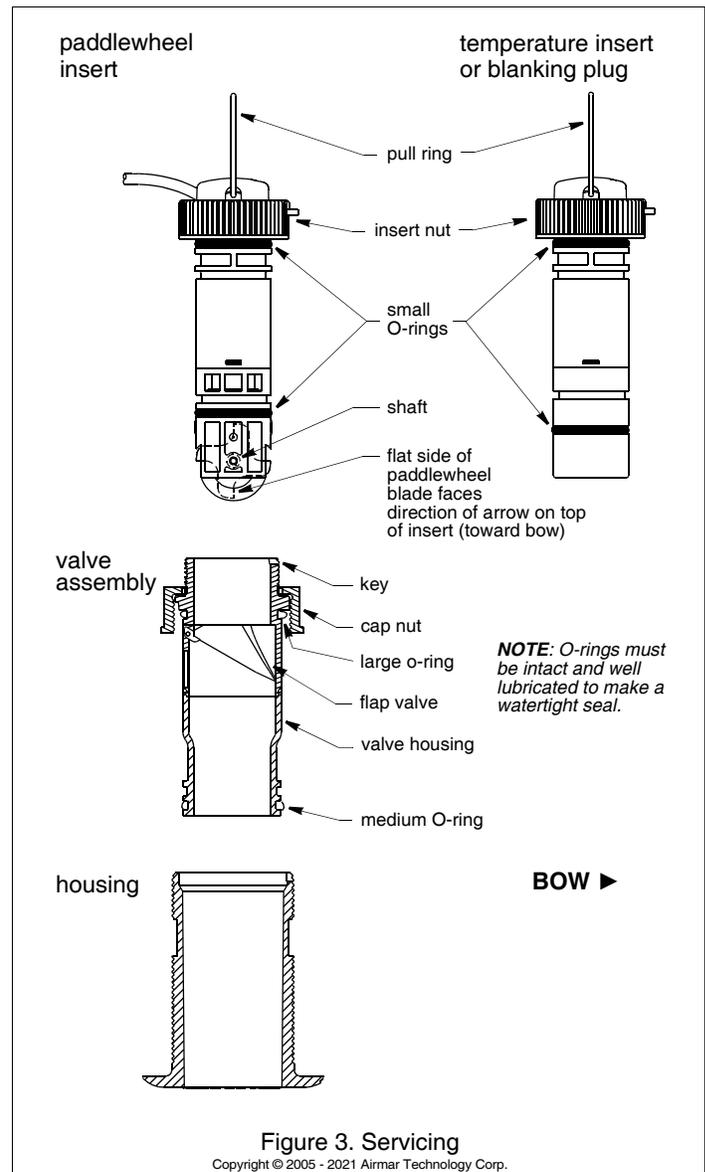

Figure 3. Servicing
5. All the O-rings must be intact and well lubricated to make a watertight seal. After the marine sealant cures, inspect the O-rings on the valve assembly (replace if necessary) and lubricate them with the silicone lubricant supplied (Figure 3).
1. Place the INSERT nut on the top of the *long* blanking plug. Attach the pull ring to the plug, capturing the insert nut (Figure 3).
5. Slide the *long* blanking plug into the housing (Figure 3). Seat it into place with a pushing twisting motion until the key fits into the notch. Screw the INSERT nut in place and **hand tighten** only. Do not over tighten.
2. All the O-rings must be intact and well lubricated to make a watertight seal. Inspect the O-rings (replace if necessary) and lubricate them with silicone lubricant or petroleum jelly (Figure 3).
6. Clean, repair, or replace the valve assembly, so the flap valve moves freely and seats against the valve housing (Figure 3).
1. Using the new paddlewheel shaft, push the old shaft out about 6mm (1/4"). With pliers, remove the old shaft (Figure 3).